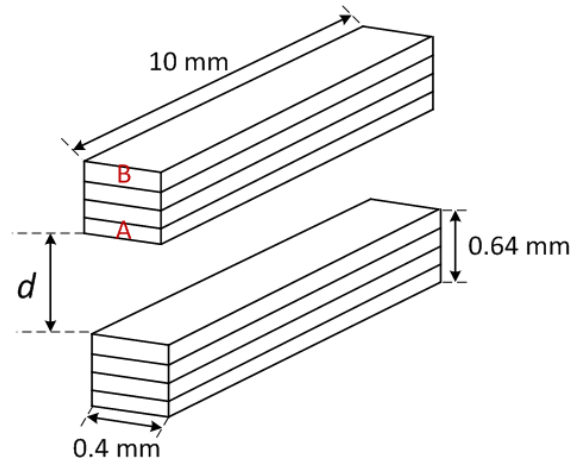

Fig. 3
3. Consider the two strips (copper) shown in Fig. 3. The spacing between them is denoted as d . Solve problems (a)-(c) when the spacing $d = 0.8$ mm. [Note: ignore the skin effect]